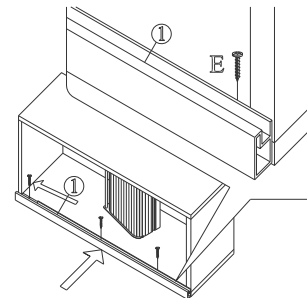

Fig. 2
2. Fix the track on left side edge of the cabinet as shown in Fig. 2.